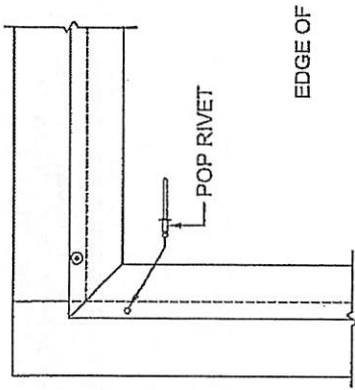
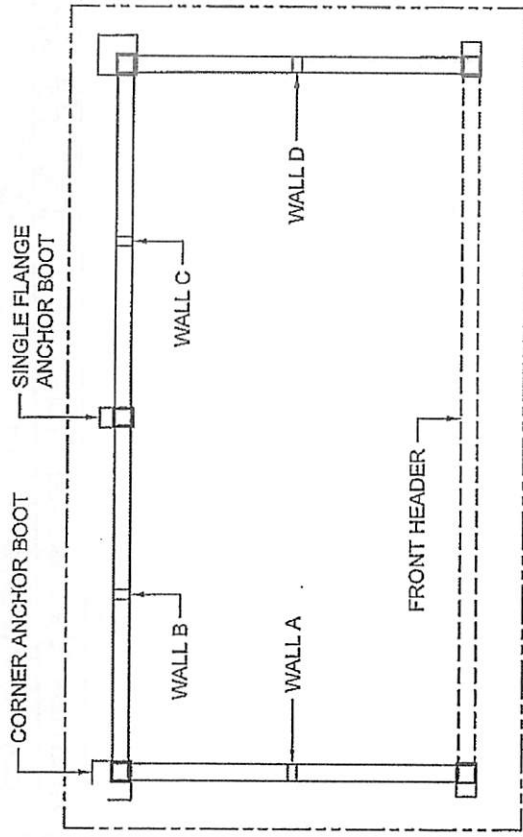

FIGURE 2
FIGURE 3
NOTE: FIGURE 3 SHOWS A GENERIC WALL LAYOUT. SEE WALL LAYOUT PROVIDED FOR ACTUAL CONFIGURATION.
- 1) START WITH THE LEFT SIDE WALL AND LEFT BACK WALL. SET COLUMNS IN ANCHOR BOOTS. (ANCHOR BOOTS CAN BE ALIGNED UNDER SILLS OR TO OUTSIDE OF SHELTER AS SHOWN IN FIGURE 3) SLIDE HEADER AND SILL TUBES ONTO CORRESPONDING TUBE CLIPS UNTIL FULLY ENGAGED. ATTACH TO CLIPS WITH FLAT HEAD DRIVE RIVETS.
- 2) REPEAT STEP 1 FOR REMAINING WALL SECTIONS, FRONT HEADER AND CROSS BRACE(S) CONNECTIONS.
- 3) WHERE WALL SECTIONS WERE CONNECTED, TRANSFER HOLES IN GLAZING SASH TO COLUMNS SECURE SASH TO COLUMN WITH POP RIVET (FIGURE 2).